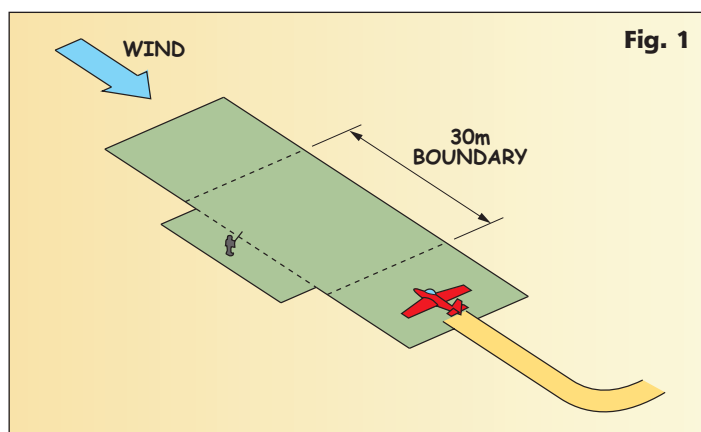

Fig. 1
l.) Fly a rectangular landing approach and land (wheels to touch within a pre-designated 30 metre boundary). This final circuit of the test flight is exactly the same as the landing approach and overshoot that you just flew in j.) above, but with a termination of the flight as the model alights onto the strip. This criteria of a 30m boundary (Fig. 1) is worth a closer look here, though. I've yet to see an examiner measure out a 30m boundary when conducting a 'B' Certificate flight. Typically, what this request means is that the model should touch down at a point reasonably in front of the pilot and somewhere on the landing strip - a very broad 'spot landing', if you would.